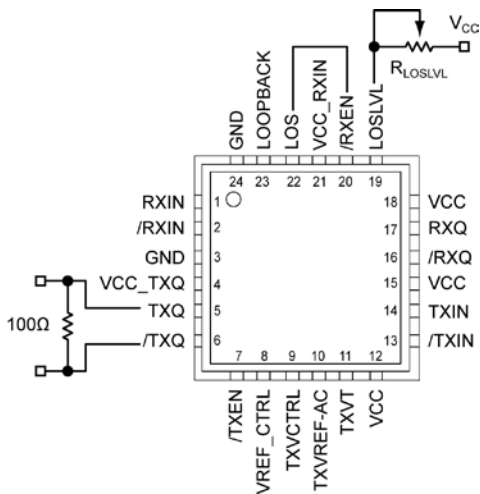

Figure 2b. Alternative Implementation
- Sensitivity of the LOS signal can be programmed using the $LOSLVL$ input by using a variable resistor connected to V_{CC} with a wiper connected to $LOSLVL$, as shown in Figure 2b